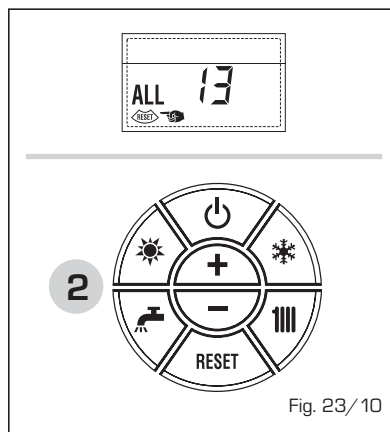

Fig. 23/10
- ANOMALÍA SONDA HUMOS "ALL 14" (fig. 23/11)